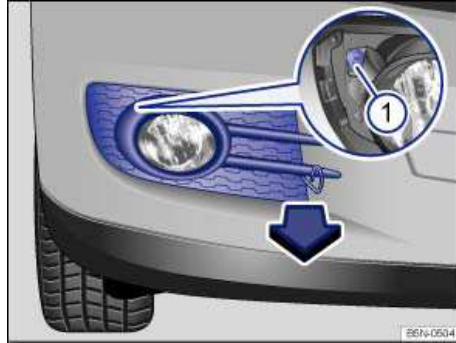

Fig. 206 In right front bumper: Removing light assembly.
⇒ fig. 206. Pull the cover upward in the direction of the arrow.
11. Tighten the screw ⇒ fig. 206 (1) with the screwdriver.
12. Install cover in the bumper ⇒ fig. 206.